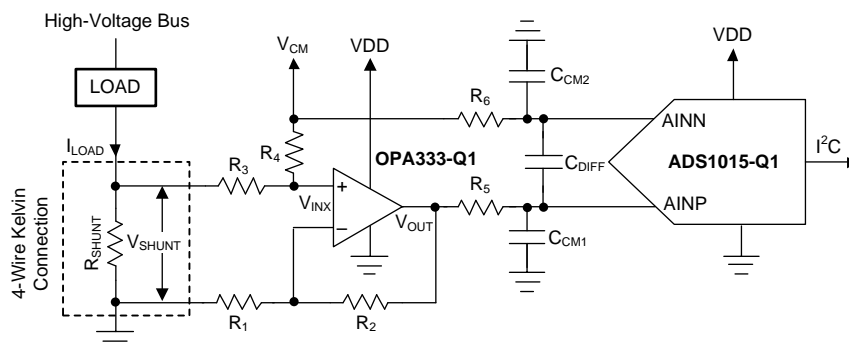

Figure 29. Low-Side Current Shunt Monitoring
Shunt-based, current-measurement solutions are widely used to monitor load currents. Low-side, current-shunt measurements are independent of the bus voltage because the shunt common-mode voltage is near ground. Figure 29 shows an example circuit for a bidirectional, low-side, current-shunt measurement system. The load current is determined by measuring the voltage across the shunt resistor that is amplified and level-shifted by a low-drift operational amplifier, OPA333-Q1. The OPA333-Q1 output voltage is digitized with ADS1015-Q1 and sent to the microcontroller using the I²C interface. This circuit is capable of measuring bidirectional currents flowing through the shunt resistor with great accuracy and precision.
1. To level-shift the ground-referenced signal to allow bidirectional current measurements while running off a unipolar supply. The voltage across the shunt resistor, V_{SHUNT} , is level-shifted by a common-mode voltage, V_{CM} , as shown in Figure 29. The level-shifted voltage, V_{INX} , at the noninverting input is given by Equation 3.
A shunt resistor (R_{SHUNT}) is an accurate resistance inserted in series with the load as shown in Figure 29. If the absolute voltage drop across the shunt, $|V_{SHUNT}|$, is a larger percentage of the bus voltage, the voltage drop may reduce the overall efficiency and system performance. If $|V_{SHUNT}|$ is too low, measuring the small voltage drop requires careful design attention and proper selection of the ADC, operation amplifier, and precision resistors. Make sure that the absolute voltage at the shunt terminals does not result in violation of the input common-mode voltage range requirements of the operational amplifier. The power dissipation on the shunt resistor increases the temperature because of the current flowing through it. To minimize the measurement errors due to variation in temperature, select a low-drift shunt resistor. To minimize the measurement gain error, select a shunt resistor with low tolerance value. To remove the errors due to stray ground resistance, use a four-wire Kelvin-connected shunt resistor, as shown in Figure 29.